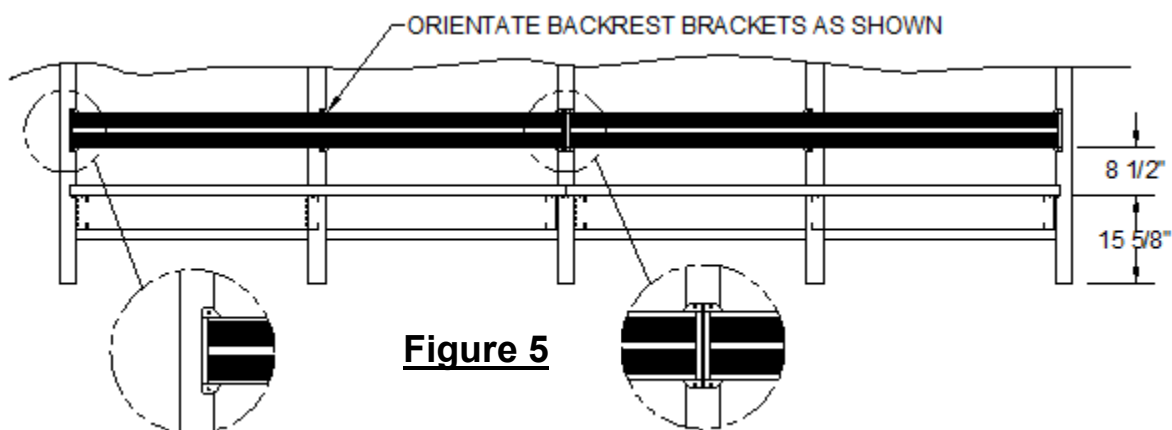

**Figure 4**
Fasten with 3/16" aluminum pop rivets, 2 per corner. Repeat this process for the remaining corners. See **Figure 4** below.
**See Figure 4.** Secure backrest bracket to backrest with 3/16" pop rivets, 2 per backrest bracket. Remove clamps.